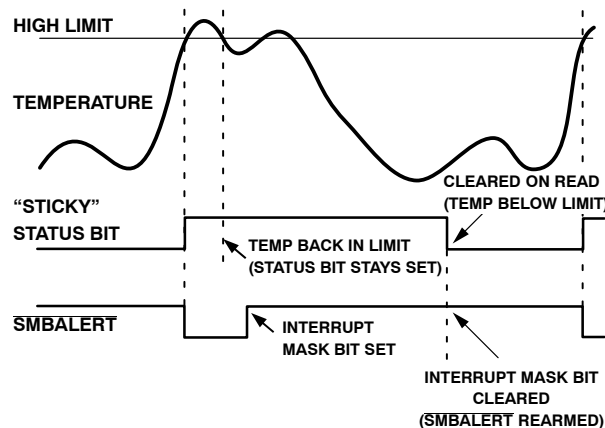

Figure 35. How Masking the Interrupt Source Affects SMBALERT Output
7. Periodically poll the status registers. If the interrupt status bit has cleared, reset the corresponding interrupt mask bit to 0. This causes the SMBALERT output and status bits to behave as shown in Figure 35.